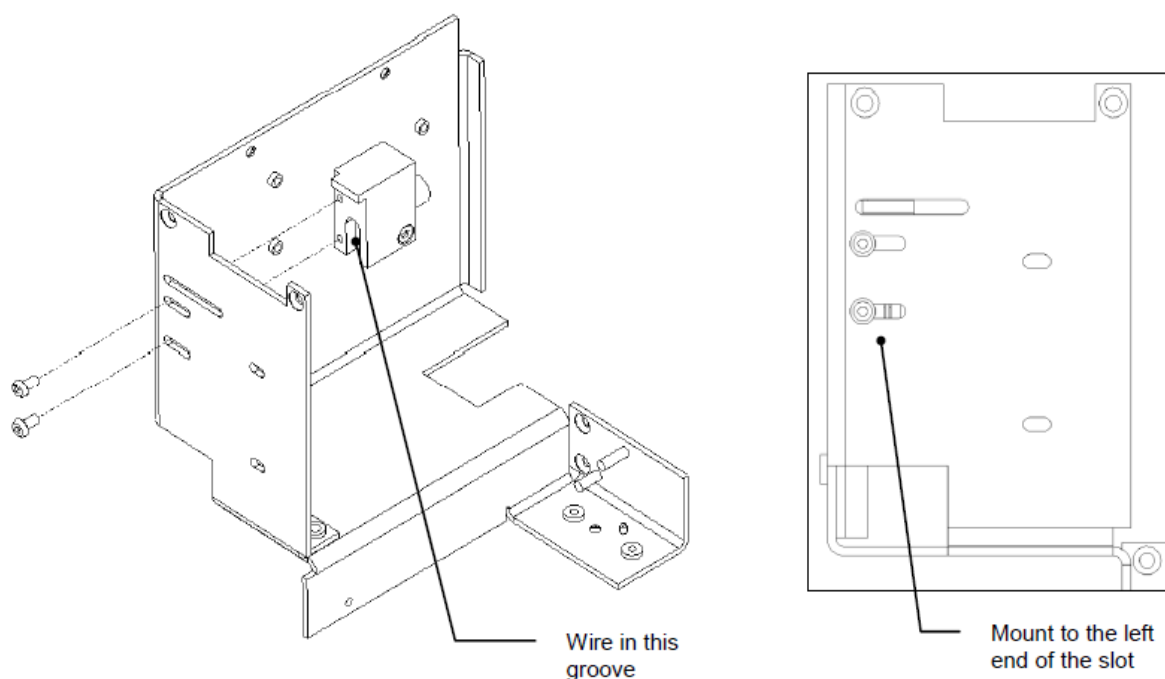

Figure V-12: Removing and Replacing the Laser Mounting Assembly
3. Disconnect the assembly from the PCB, and then remove the Laser Mounting Assembly from the Sample Rack Scanner Carriage Support by removing the two M3x6 Socket Head Button Screws (Figure V-12).
When replacing the assembly, position it to the left end in the slot, see the right side of Figure V-12. Ensure that the wires are routed downwards in the groove. Note: do not trap the wires between the support and Laser Mounting.